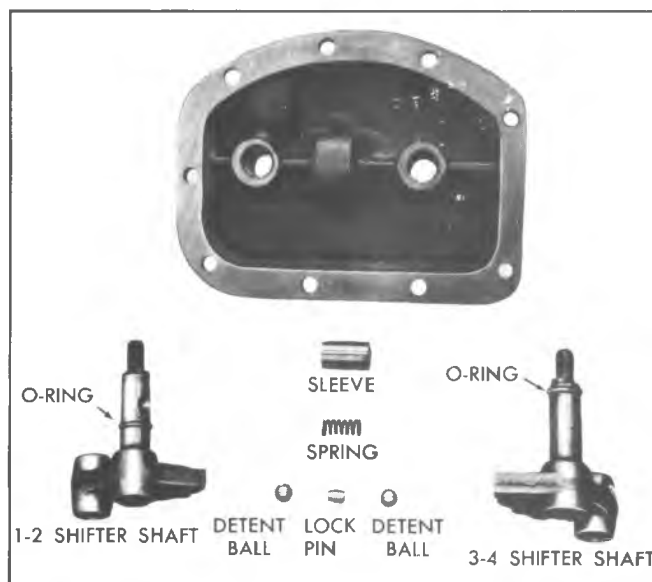

Fig. 7B-18K—Shift Cover Assembly
5. Attach a dial indicator as shown in Fig. 7B-20K and check end play of the countergear. If end play is greater than .025", a new thrust washers must be installed.